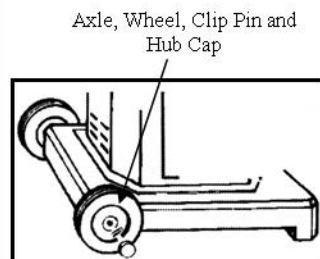

Fig. 3
C. On portable bases, attach the wheels by slipping the axle through the base, slide the wheels on and install the axle clips. Finish by snapping the hubcaps on. Flat base permanent models must be Lag Bolted to the deck or concrete for stability. (Fig. 3)
C. On portable bases, attach the wheels by slipping the axle through the base, slide the wheels on and install the axle clips. Finish by snapping the hubcaps on before standing upright. Flat base permanent models must be Lag Bolted to the deck or concrete for stability. **(Fig. 3 Page 8)**